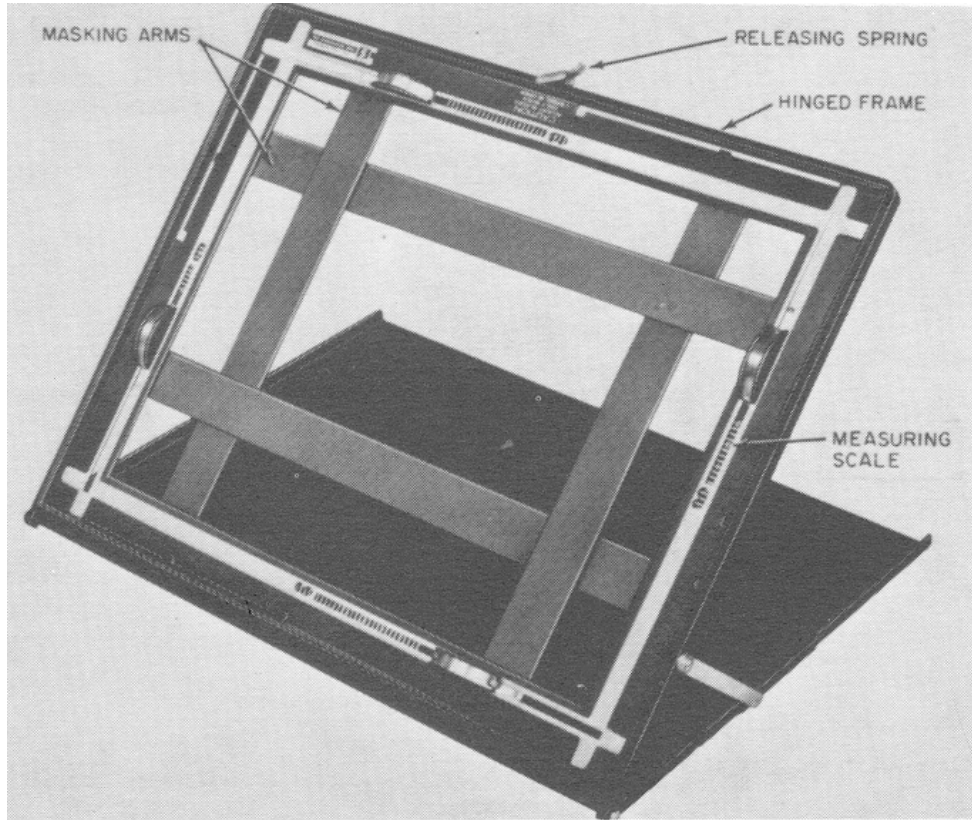

FIGURE 2-8. Easel, Projection Printing FN-10(1).
g. Easel, Projection Printing FN-10(1) (figure 2-8). The easel contains four adjustable masking blades. A click stop holds the easel open for paper insertion. Three paper slots are incorporated to accommodate various sizes of paper.
2-20 Using Easel, Projection Printing FN-10(1) (figure 2-8)